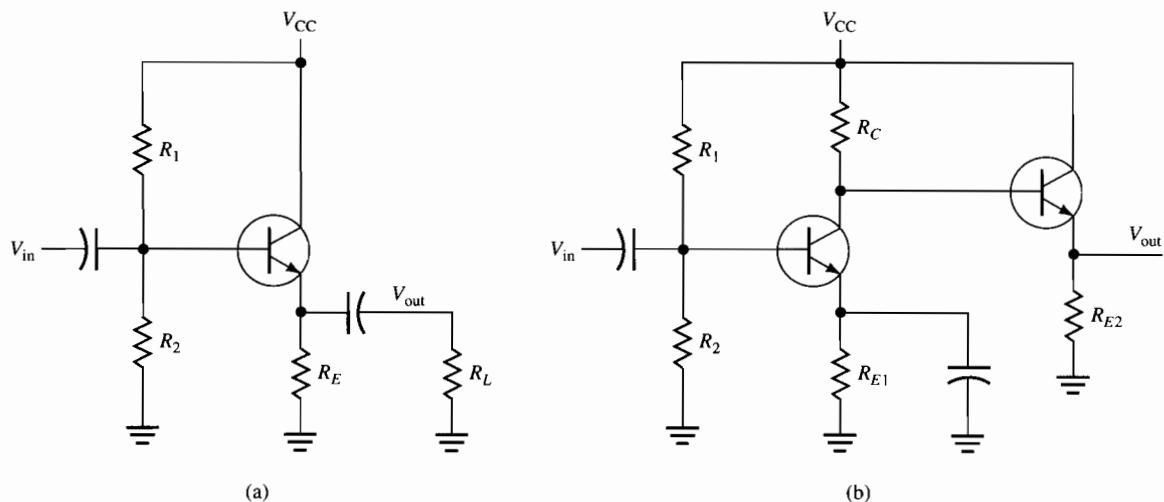

Figure 39-1
The common-collector (CC) amplifier (also called the *emitter-follower*) has the input signal applied to the base and the output signal is taken from the emitter as shown in Figure 39-1(a). The ac output voltage almost perfectly duplicates the input voltage waveform. Although this means the voltage gain is approximately 1, the current gain is not; hence, the emitter-follower can deliver increased signal power to a load. The CC amplifier is characterized by a high input impedance and a low output impedance. This is the most important characteristic of the emitter-follower.
Voltage divider bias can be used as illustrated in Figure 39-1(a). Frequently, however, a CC amplifier is used immediately following a voltage amplifier, and bias may be obtained through a dc path connected to the previous stage, as illustrated in Figure 39-1(b). This technique is common in power amplifiers with push-pull output stages (Experiment 41) but cannot be used if the emitter-follower is capacitively coupled.